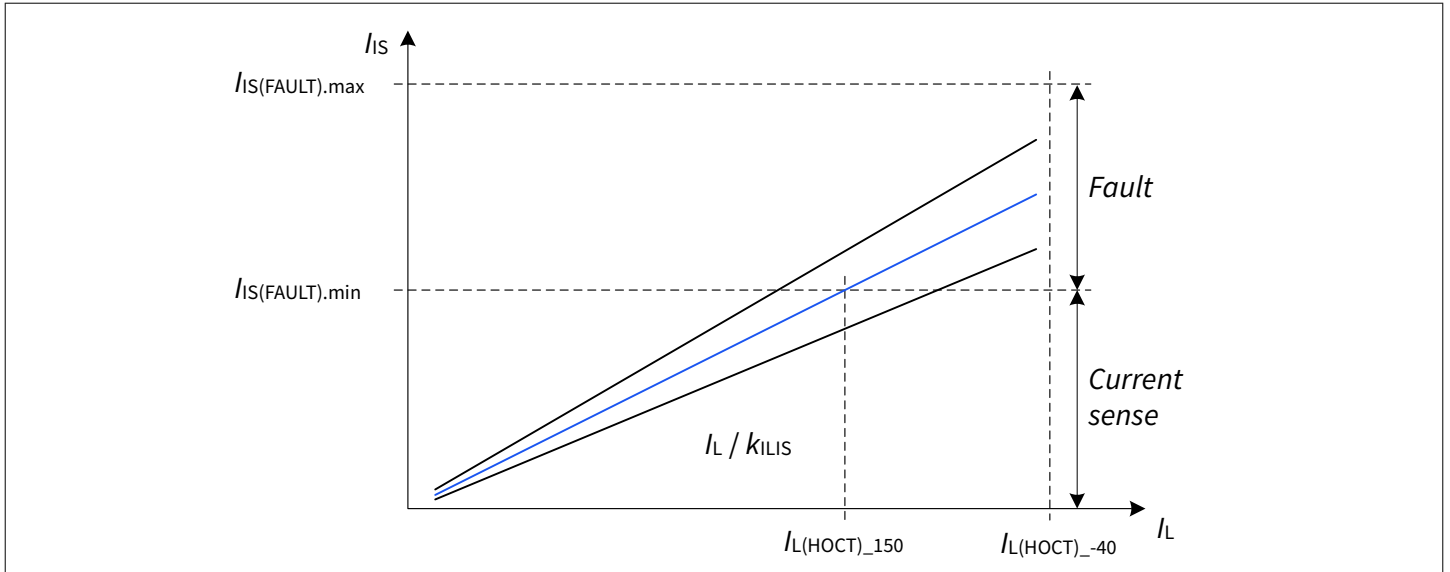

Figure 46 Current sense behavior - overview
- No fault (as described in Chapter 8.3) is present or was latched (see Figure 46 for further details)
Figure 46 shows the relation between $I_{IS} = I_L / k_{ILIS}$, $I_{IS(SAT)}$ and $I_{IS(FAULT)}$.